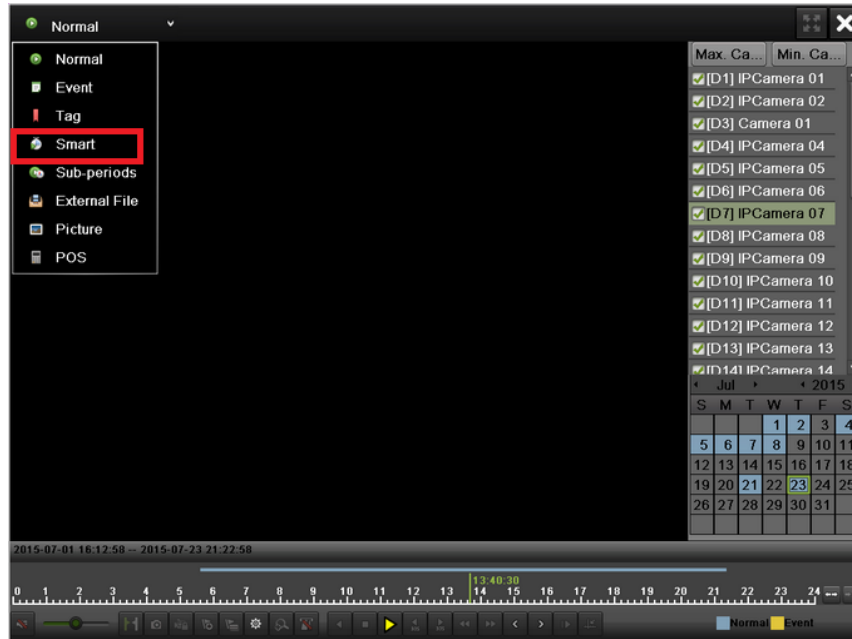

Figure 88 Smart Playback Interface
2. Enter into Full Screen mode, shown in **Figure 88** by clicking the Full Screen button.
1. Enter the Smart interface, shown in Figure 88 by going to Menu > Playback > Smart.